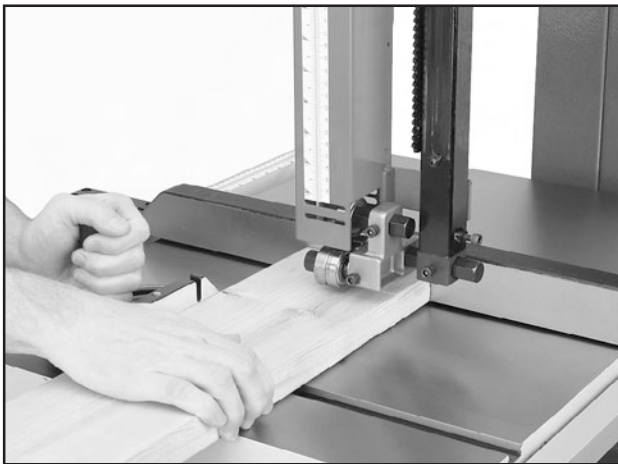

Figure 63. Crosscutting with miter gauge.
5. After all safety precautions have been met, turn the bandsaw **ON**. Slowly feed the workpiece into the blade and continue the cut until the blade is all the way through the workpiece. **Figure 63** shows a typical crosscutting operation.